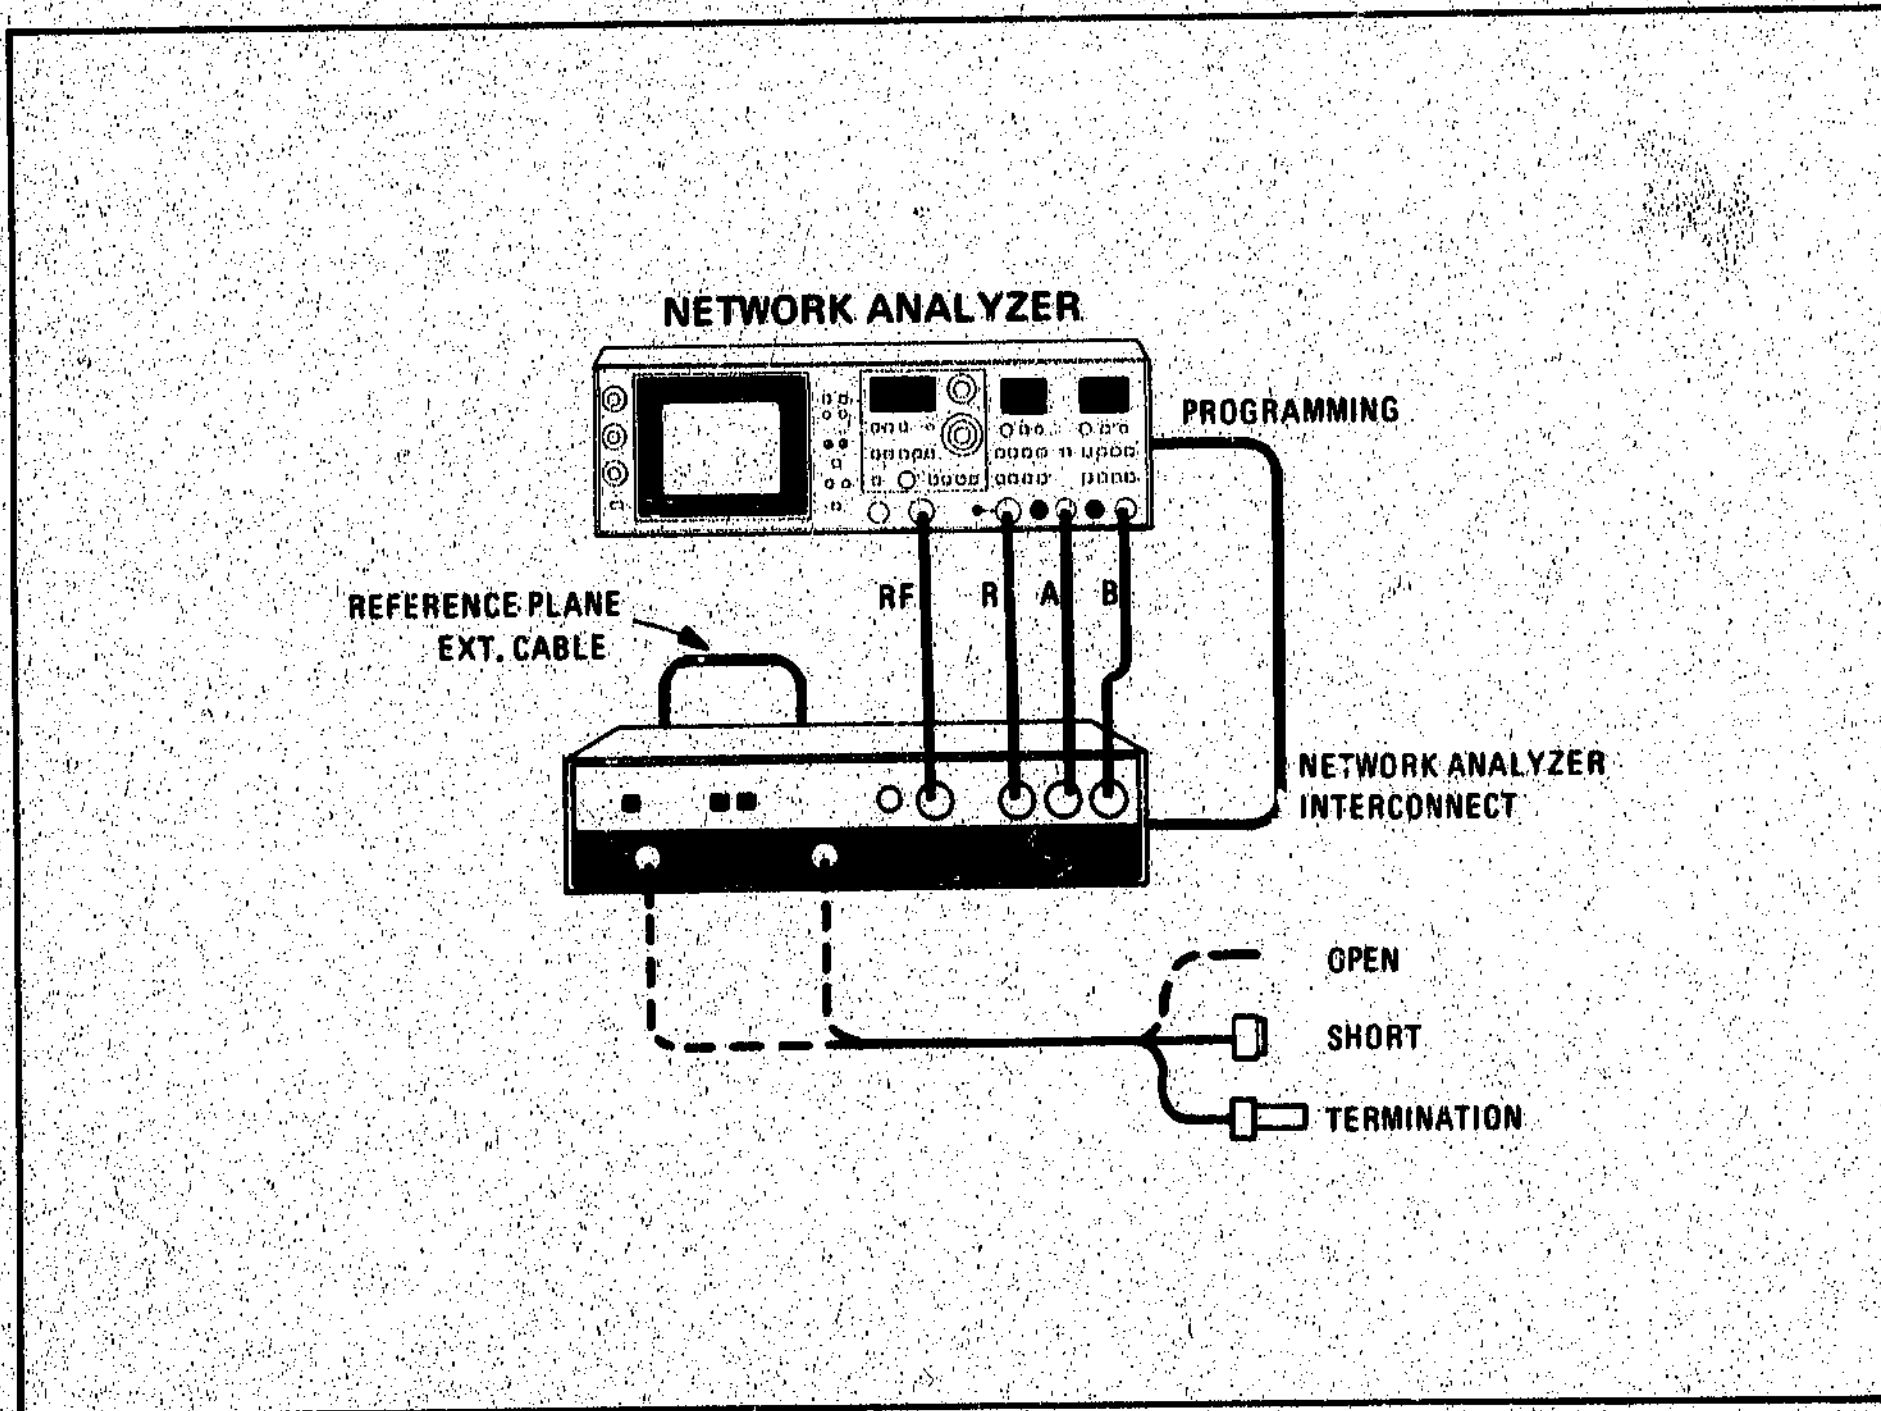

Figure 2-5. Operation Verification Test Setup
- c. Connect equipment as shown in Figure 2-5 test setup. R INPUT UNLOCKED lamp should not be lit. It is not important which reference plane extension cable is connected on rear of 8748A.